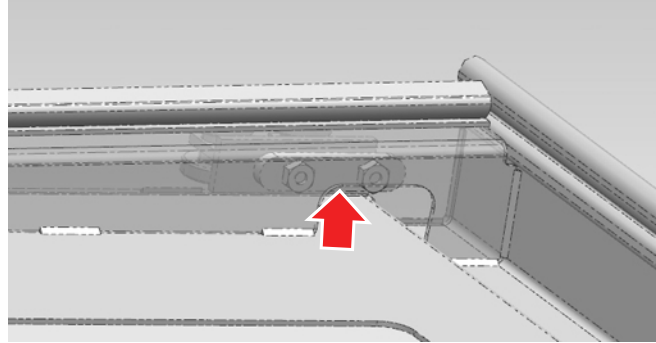

Figure 4
6. Remove both of the current backing plates for the cab door wheels and discard (see Figure 4).